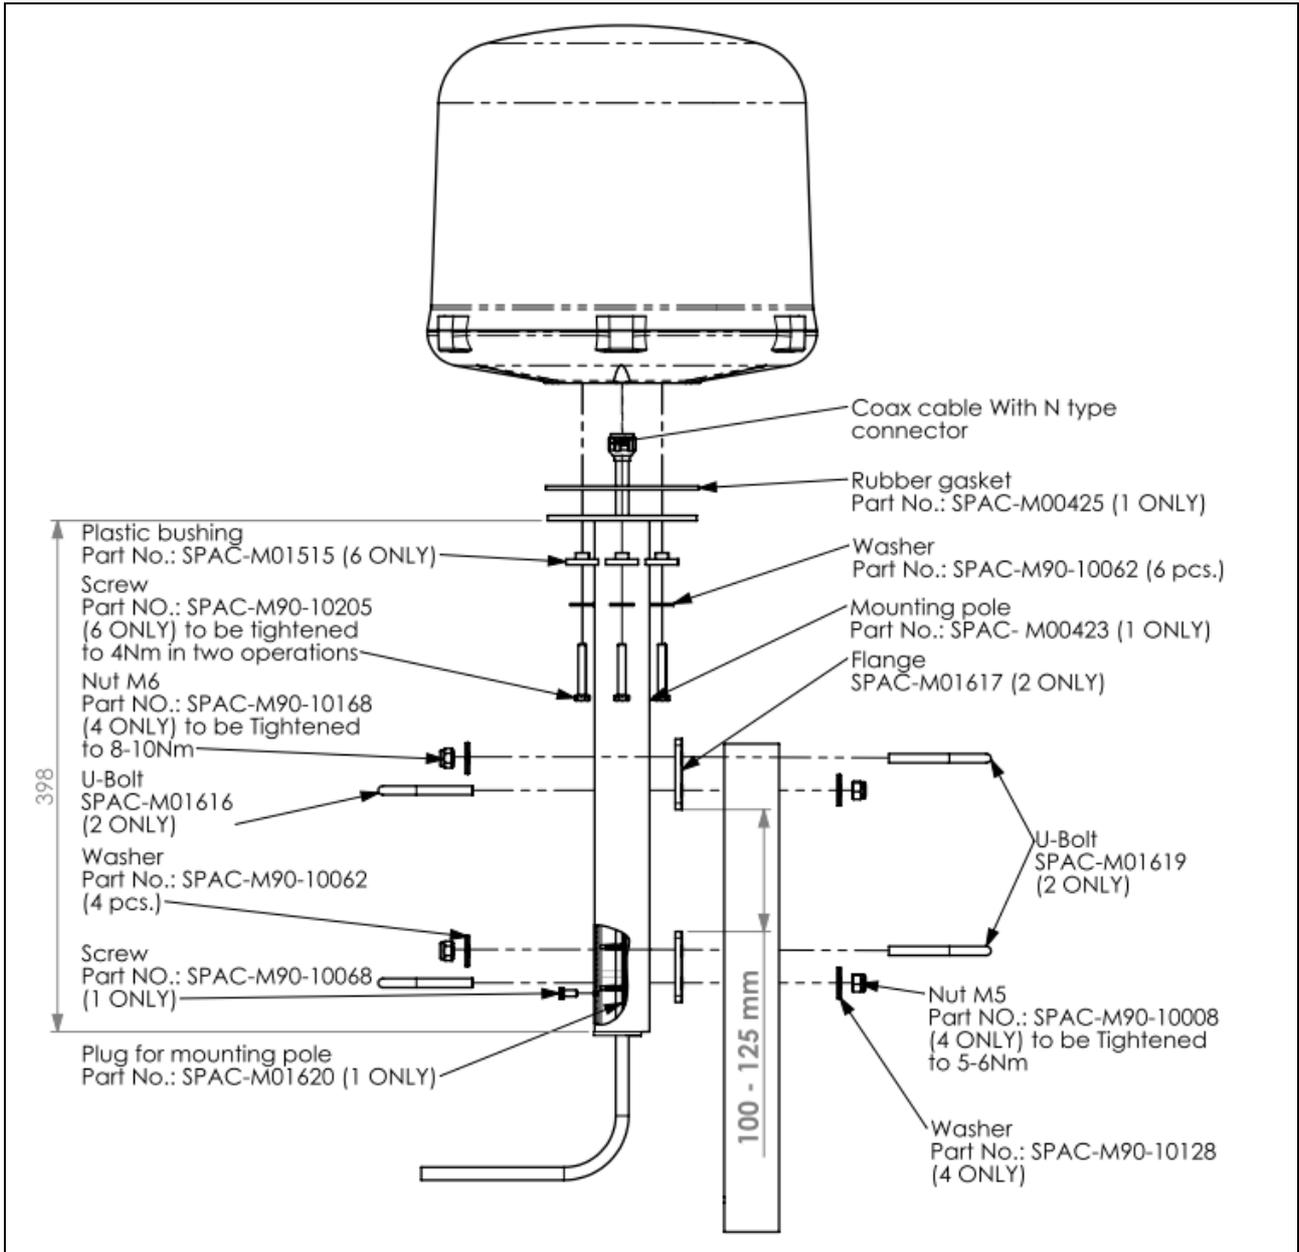

Figure 3. Installations using the standard pole mount kit.
The installation is based on a Pole Mount Kit AS-01518 supplied by SpaceCom. Installation using the "Pole Mount Kit" is shown in Figure 3.
Installation of the SpaceCom IP321 Maritime Antenna on a post is done according to Figure 3. The diameter of the post should preferably be between 35 and 50mm using the standard U-bolt supplied in the kit. Notice the TORQUES for bolts and nuts.
Remember to connect the N-connector on the 15 meter or 25 meter coax cable as shown in Figure 3 before fastening the antenna to the pole mount.
3. U-bolts, Part No. SPAC-M01616, are used to fasten the Flange, SPAC-M01617 to the Mounting Pole, SPAC-M00423, refer to Figure 3
4. Flange, Part No. SPAC-M01617 is used to connect the U-bolts, refer to Figure 3
5. U-bolts, Part No. SPAC-M01619, are used to fasten the Mounting Pole to any post with a diameter between 35 and 50 mm, refer to Figure 3.
8. Nuts, Part No. SPAC-M90-10008, are M5 nut used for the u-bolts, SPAC-M01616, refer to Figure 3. Nuts are to be tightened to 5Nm. Remember to use the washers M90-10128 as shown in Figure 3.
10. Nuts, Part No. SPAC-M90-10168, are M6 nut used for the u-bolts, SPAC-M01619, refer to Figure 3. Nuts are to be tightened to 8Nm. Remember to use the washers M90-10062 as shown in Figure 3.
11. Screws, Part No. SPAC-M90-10205, are M6 (metric) 40mm long screws made of stainless steel (A4) used for fastening the antenna to the flange on the Mounting Pole so that the installation will endure vibrations and heavy loads due to wind or surges from rough sea. Remember to use the washers M90-10062 as shown in Figure 3. **DO NOT CHANGE THE LENGTH OF THE SCREWS.**